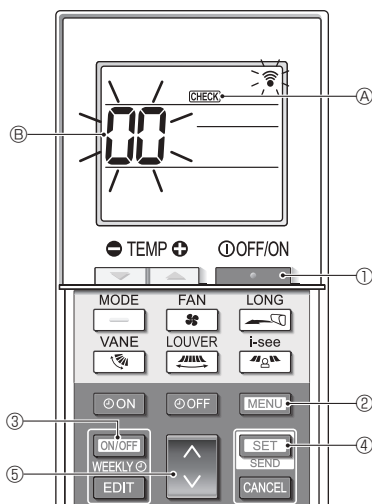

Fig. 7-6
■ Self-check (Fig. 7-6)
- Press the [ON/OFF] button ① to stop the air conditioner.
- If the weekly timer is enabled (WEEKLY is on), press the [ON/OFF WEEKLY] button ③ to disable it (WEEKLY is off).
- Press the [MENU] button ② for 5 seconds.
- CHECK ④ comes on and the unit enters the self-check mode.
- Press the [DOWN] button ⑤ to select the refrigerant address (M-NET address) ⑥ of the indoor unit for which you want to perform the self-check.
- Press the [SET] button ④.
- Press the [ON/OFF] button ①.
- CHECK ④ and the refrigerant address (M-NET address) ⑥ go off and the self-check is completed.